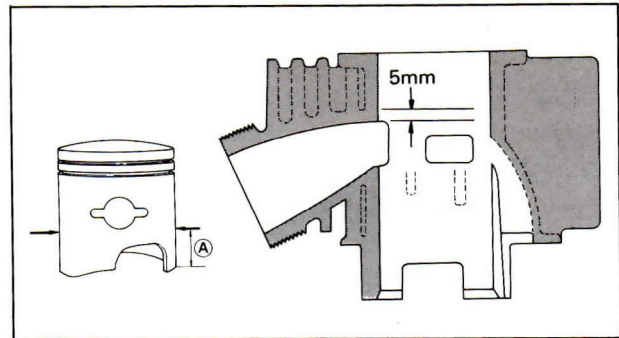

Fig. 2-52
Cylinder-to-piston clearance is the difference between piston diameter and bore diameter, read the elevation gauge indicated in Fig. 2-52.
Referring to Fig. 2-52, be sure to take the measured diameter at right angles to piston pin. The value of elevation (A) is prescribed to be 11 mm.
The elevation at which the bore diameter is to be read is about 5 mm above the exhaust port, Fig. 2-52.